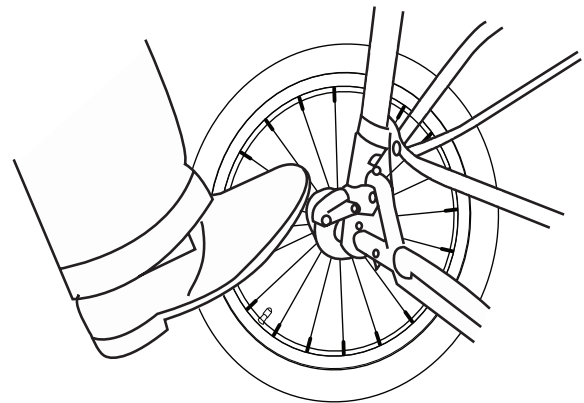

Fig. 7
12. To lock brakes, press downward on brake lever located on each rear wheel (Fig. 7). Please note in order to line up the break tab with brake tab slots stroller may need to be moved forward or backwards slightly. Check to make sure the brakes are in a fully locked position, so stroller will not move when pushed. To release breaks, gently push up on the brake lever.